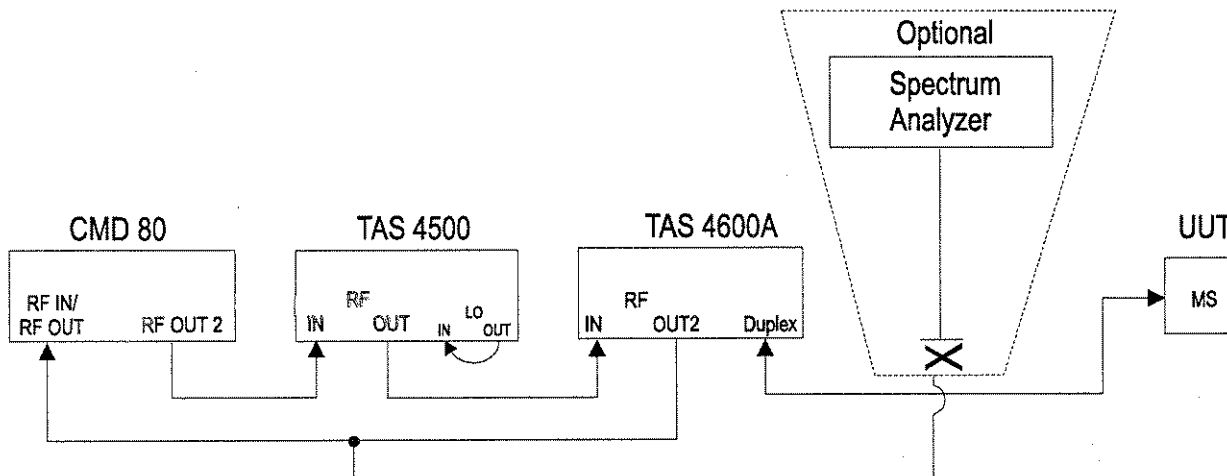

Figure 3-6. Equipment Setup with Internal Duplexer Option
The test setup required to implement this procedure is provided below in Figures 3-6 and 3-7. The Base Station Emulator performs the functions of an actual base station, and TAS CDMA-LAB emulates the necessary radio channel environment. A CDMA mobile station (MS) acts as the unit under test (UUT). If it is desirable to monitor the MS receive channel (Rx), an optional spectrum analyzer can be used along with a directional coupler.
Configure the test setup as depicted in Figure 3-6.